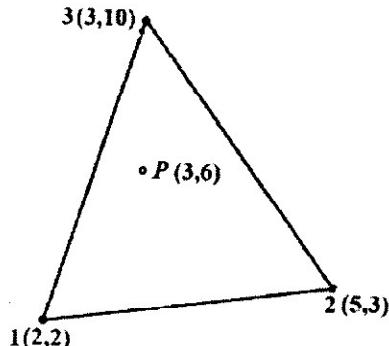

Figure 3
b) For CST element as shown in Figure 3 are given as $N1 = \zeta$, $N2 = \eta$, and $N3 = 1 - \zeta - \eta$. Evaluate shape functions at interior point P. Also, if temperatures at node 1, 2 and 3 are 25° , 30° , and 50° respectively, evaluate the temperature at the interior point P. [10]